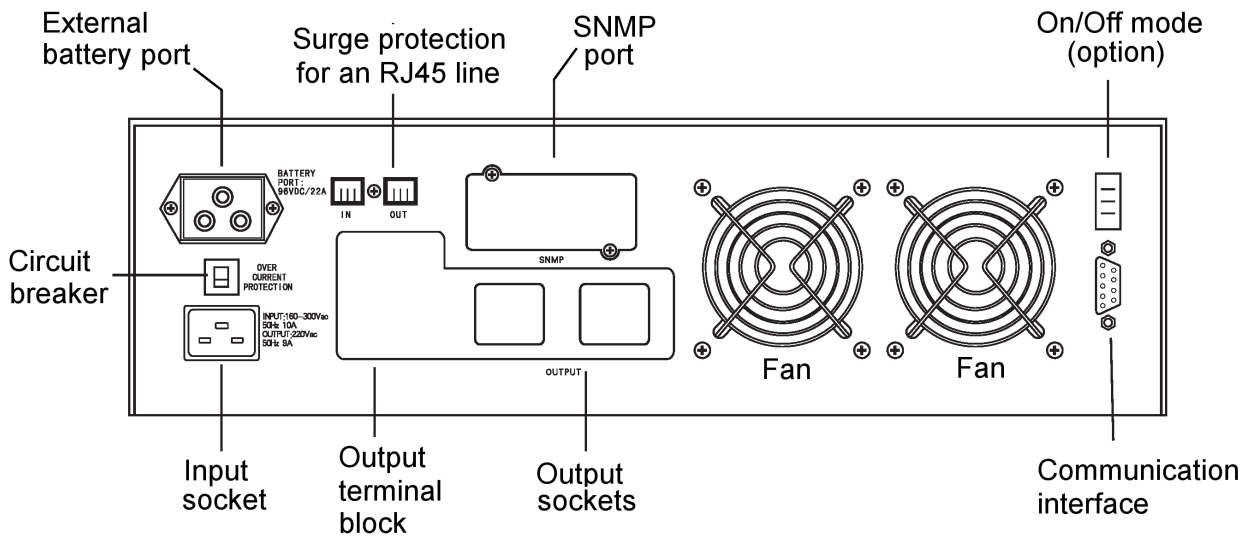

Figure 4: Rear panel of G-Net 1 – 3 kVA 19” models
2. Use the supplied cable to connect the UPS to the ac power mains socket that is grounded. The connection on the UPS for this cable is located on the rear panel and is labeled INPUT. See Figure 4.